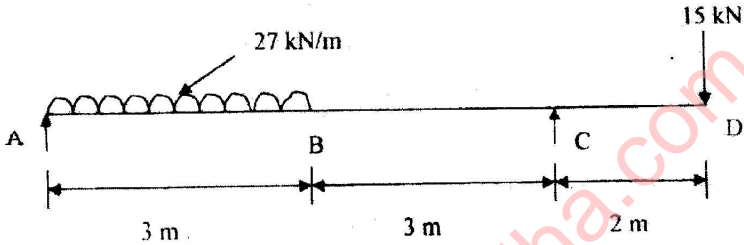

Figure No. 3 (Q. 7)
7. Draw the shear force and bending moment diagram for the beam shown in Figure No. 3. Also determine the location of the maximum bending moment and point of contra flexure. 20